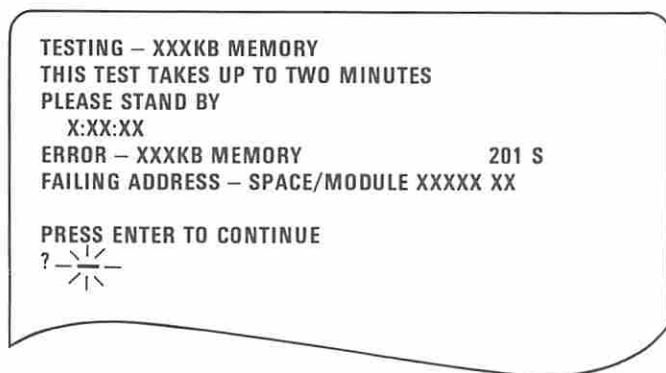

Figure 4. Advanced Diagnostic Error Message
- Note the seven-character error code (XXXXXX XX) as shown in Figure 4.